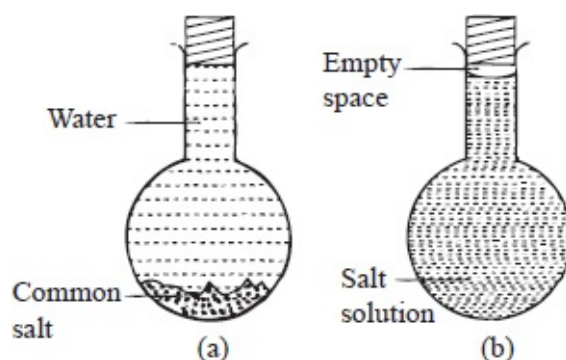

Fig. 5.3: Dissolving
- Put 100 g of salt into the flask and add water carefully using a pipette without shaking the salt, until the flask is full, see figure 5.3 (a).
From figure 5.3 (b), the volume of the solution of salt is less than the volume in figure 5.3 (a).